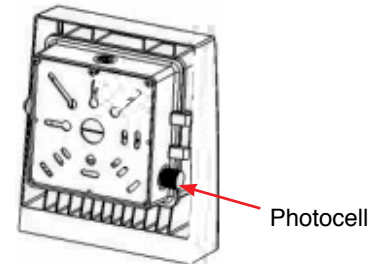

FIG. 4
3. Please refer to FIG.4 for location for the photocell (Optional).